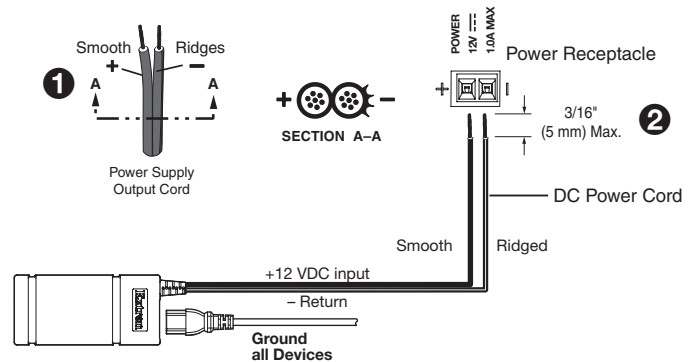

Figure 3. Connecting power to the RCP 401 D
To power the unit with a power supply, connect the provided power supply to this input. Ensure that the polarity of the wires is correct (figure 3, ①) and the wires are stripped correctly (②).